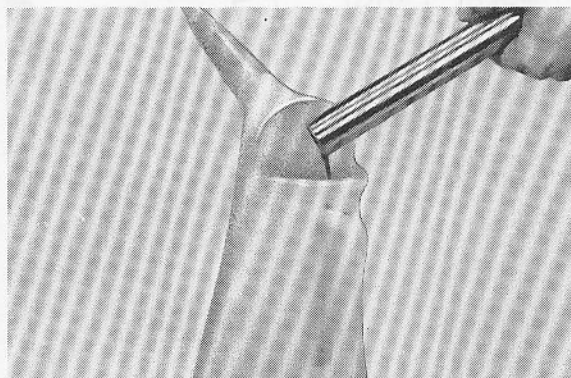

Fig. 5-6-3
2. Drain the oil from both fork tubes. (Fig. 5-6-3)
2. Vidanger l'huile des deux tubes de fourche. (Fig. 5-6-3)